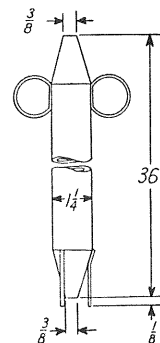

FIG. 3—DRUM THIEF
The oil sample container shown in Fig. 3 has been developed as a part of the Westinghouse Oil Testing Service. This Service furnishes a means by which customers can mail samples of insulating oil to the East Pittsburgh Works for test, and provides:
**Note:** A convenient and simple thief (see Fig. 3) for use with 50 gal. drums may be made of tin as follows: